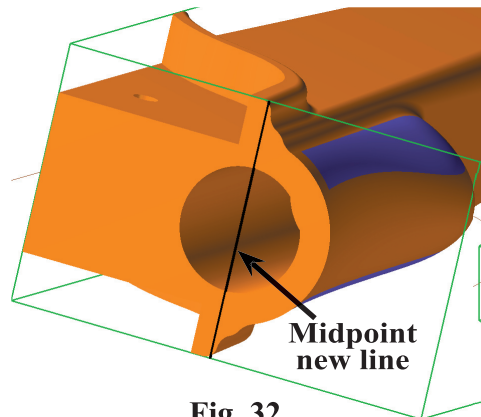

Fig. 32
Step 4. Click **copied rear line**, **Fig. 32**. You might have to zoom in or rotate view to select copied line.